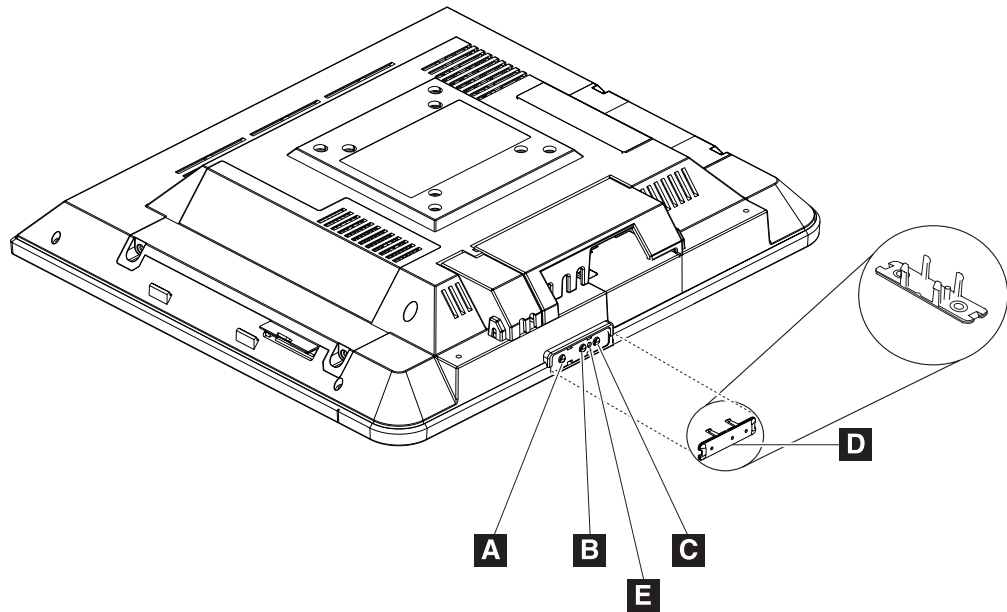

Figure 11. IBM 4836 controls and installing the control cover
2. A small hole ( **E** in Figure 11) under the control cover allows you access to the reset switch. Use a paperclip or other small tool to activate the switch.
3. Power on the IBM 4836 using the power switch (see **A** in Figure 11). The 4836 power light-emitting diode (LED) will initially appear green.
See Figure 11. To install the control button cover ( **D** ), follow these steps: